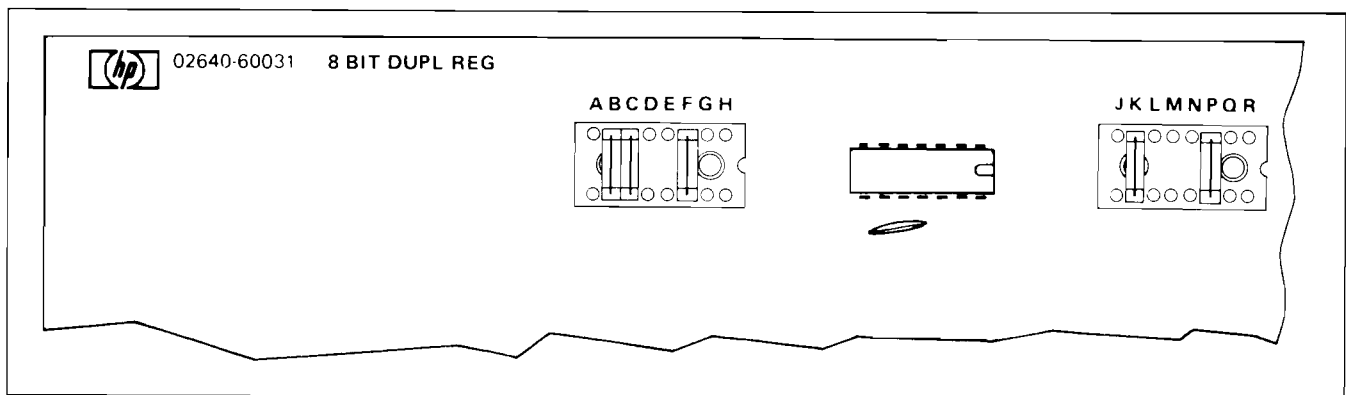

Figure 1-30. Terminal Duplex Register PCA Jumper Configuration
1. Configure jumpers on the Terminal Duplex Register PCA, part no. 02640-60031, as shown in figure 1-30.